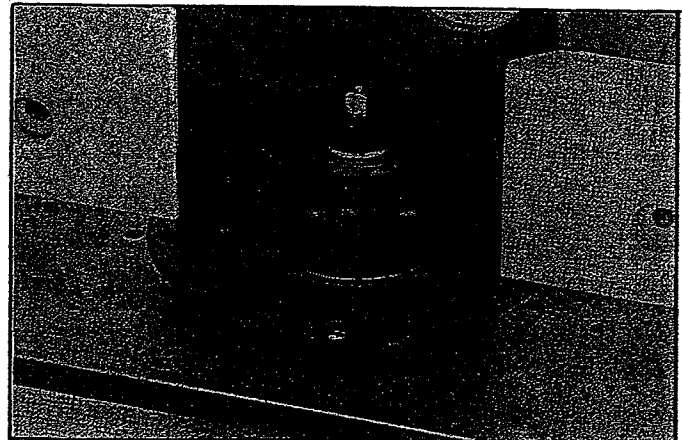

Fig. 16
4. Fig. 16, illustrates the 4-1/2" diameter spindle guard assembled to the spindle.